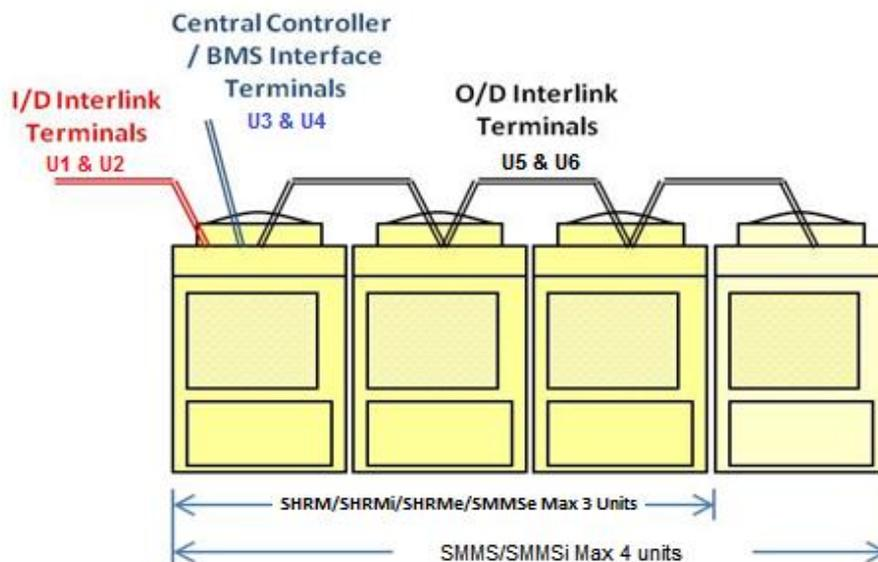

Fig 3
- 3) (Not applicable to Mini-SMMS/SMMSe), (Fig 3)
4) Indoor to outdoor connection, 1.5mm two core screened cable connected to terminals U1 & U2 of the LEAD outdoor unit and “daisy chained around ALL relevant indoor units, (Fig 3), (To speed up commissioning, leave these terminals disconnected at the outdoor unit until all other works are complete. By these cores being disconnected premature addressing cannot be carried out, but the crankcase heaters can be operated, more on this later.)
5) Central / BMS connections, 1.5mm two core screened cable connected to terminals U3 & U4 at each LEAD outdoor unit. (Fig 3)